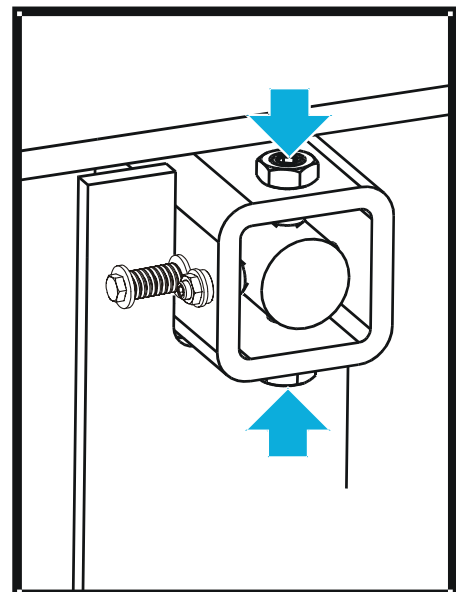

FIG. 3-6
**See Figure 3-6.** To tilt the drive-side blade wheel down, loosen the top adjustment screw, loosen the nut on the bottom adjustment screw and tighten the bottom screw. Tighten the top and bottom nuts.